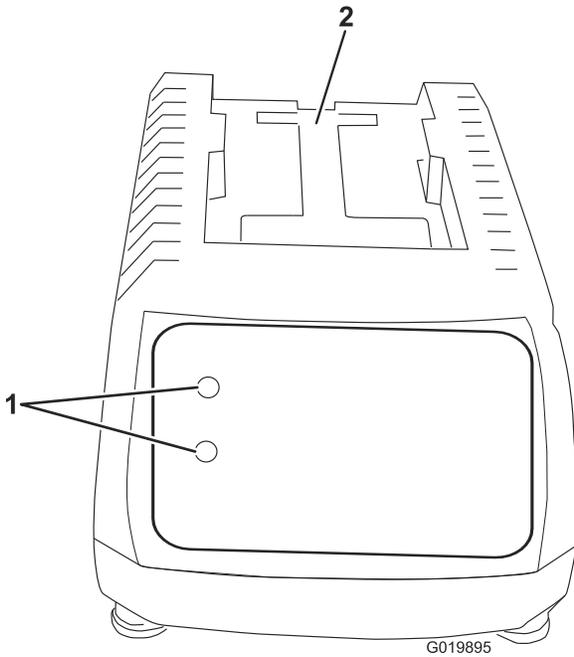
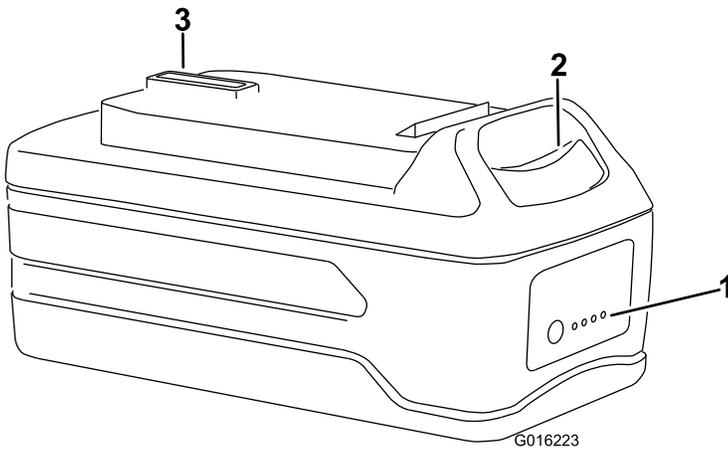

Figure 1
Figure 2
1. Turn the battery upside down and line up the battery terminal with the slot in the charger (Figure 1 and Figure 2).